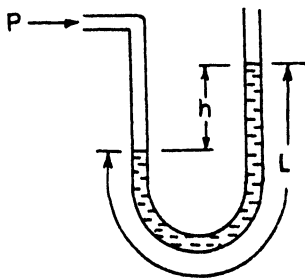

Fig. 1.33
**Solution.** We will assume the flow in the manometer is laminar and will consider fluid friction. We will neglect the density of gas above the manometer fluid. The various forces which make up the force balance equations are : (Fig. 1.33)